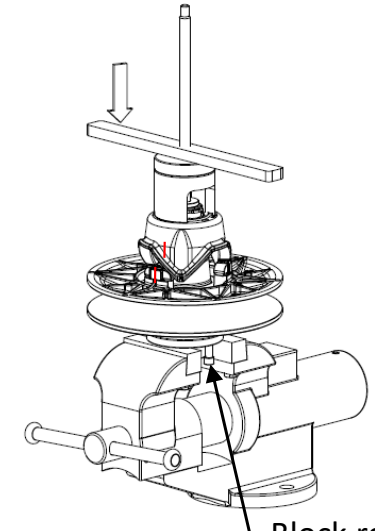
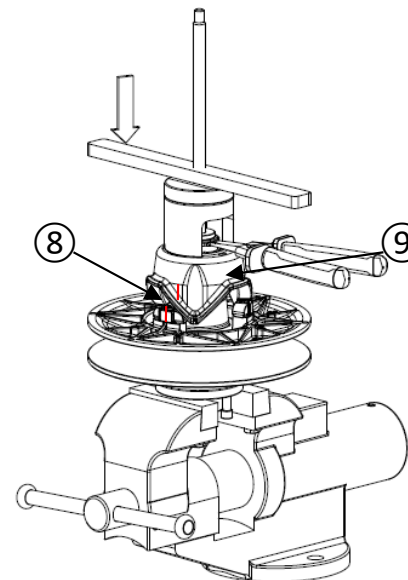

Figure 20
Figure 21
- Install the pulley on the disassembly tool as shown in figure 20. Use the lock screw to prevent the rotation of the pulley on the disassembly tool.
- By screwing the bar on the threaded rod, press down cam ⑧ (3 to 4 mm max.) in order to free up the retaining ring ⑨.
- Remove the retaining ring ⑨ using the snap ring pliers (figure 21).